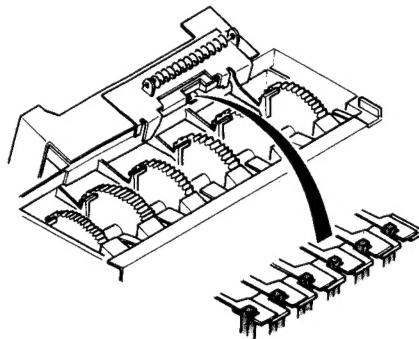

Fig. 22
7) Check to see if the lever (gear stopper) is properly inserted into the plate. (See figure 22)